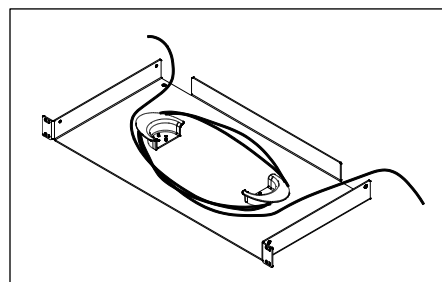

Figure 11 Fiber Routing
3. Coil the fiber slack inside the tray through one of the openings in the rear of the tray. Wind the fiber around the bend controls, observing the proper bend radius. Fiber exits through the second opening on the rear (Figure 11).